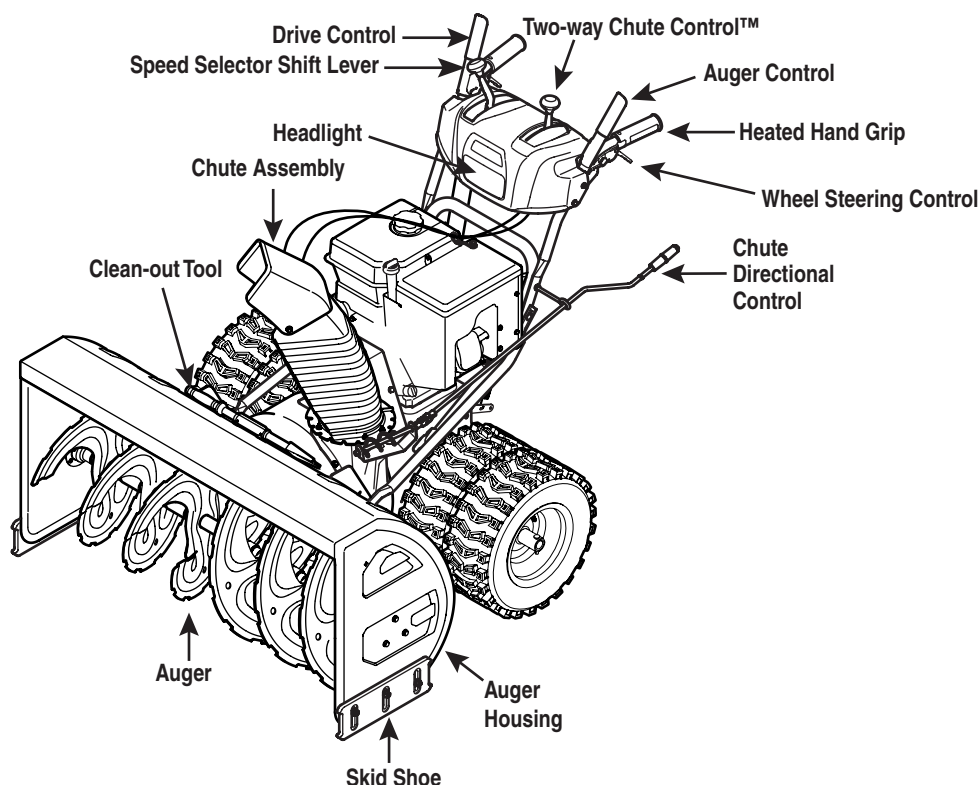

Figure 4-1
Snow thrower controls and features are described below and illustrated in Fig. 4-1.
3. To turn the snow thrower to the left or right, squeeze the respective wheel steering control. Refer to Figure 4-1.